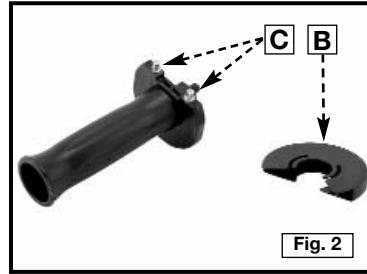

Fig. 2
NOTE: The cover of the auxiliary handle (B) Fig. 2 can be removed to expose the lugs (C) of a spindle wrench for installing and removing the grinding wheel.